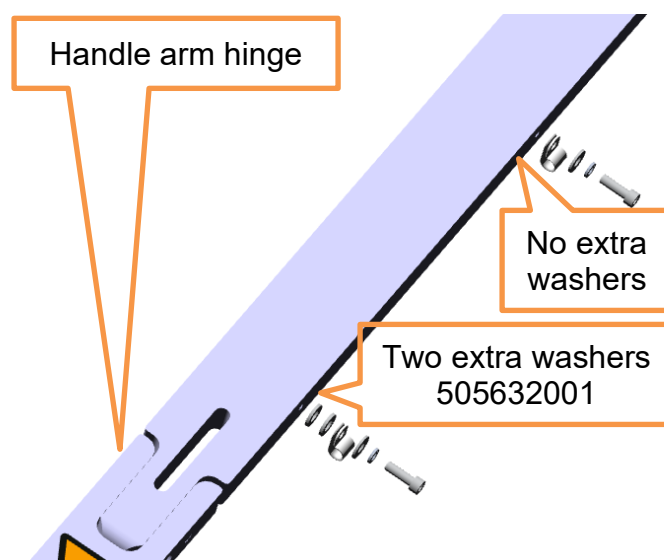

Figure 6:
5. Mount the new handle assembly 599223501 in the reverse sequence (figure 6). At two positions, closest to handle arm hinge, there should be two extra washers 505632001. These extra washers should be placed between the handle arm and cable clamp.